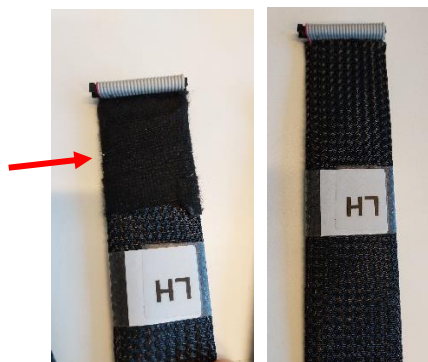

Figure 35. Cloth tape removal.
- 1) Remove the cloth tape (See figure 35).